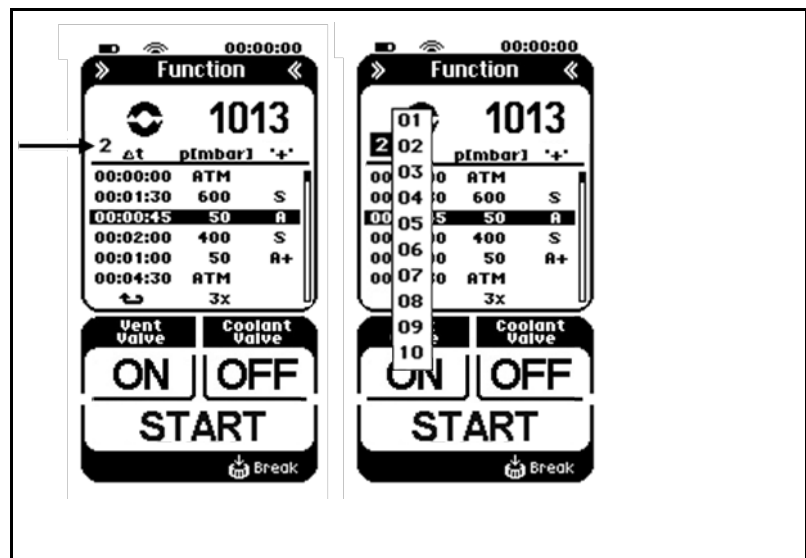

Fig. 13: Menu for Function operating mode
Line selection (see Fig. 13):
- Press the button to select data point tables (arrow in Fig. 13) and select the required data point table.
i Up to 10 different data point tables can be stored and called as required. The number in the display (arrow in Fig. 13) indicates the data point table that is currently selected.